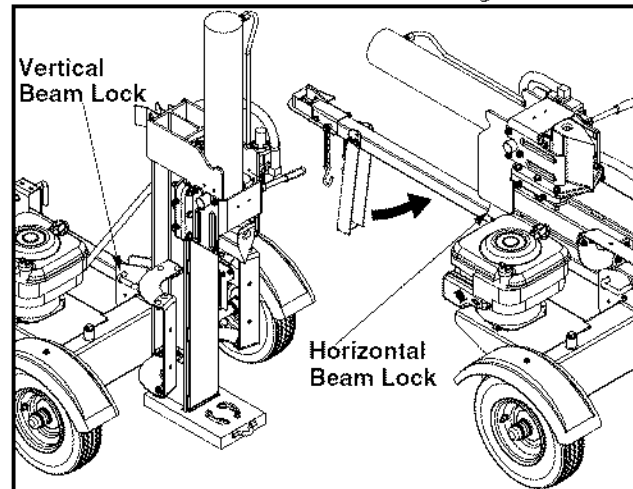

Figure 8
- To lock the beam in the vertical position, pull out on the vertical beam lock and pivot it to secure the beam. See Figure 8.
- The beam will lock automatically in horizontal position. See Figure 8.
- Remove the spring clip and clevis pin from jack stand. Support the tongue and pivot the jack stand up against the tongue. Secure with the spring clip and clevis pin previously removed. See Figure 8.